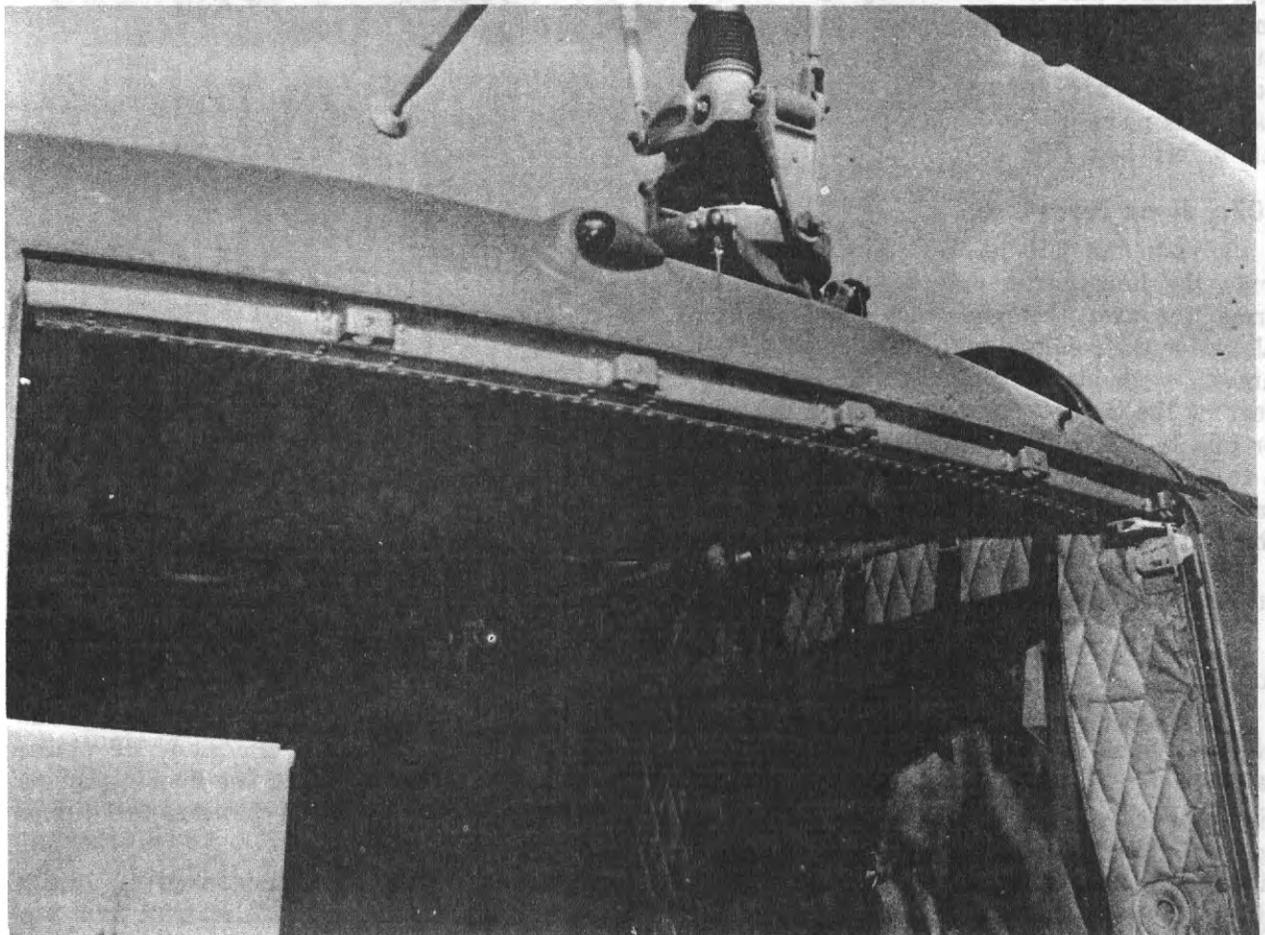

Figure 84. Overhead anchor line cable installed (UH-1A/B/C).
(3) *Overhead anchor line cable assembly.* This assembly is designed for UH-1B/C helicopters and is installed using MWO 55-1520-211-20/18 (fig. 84).